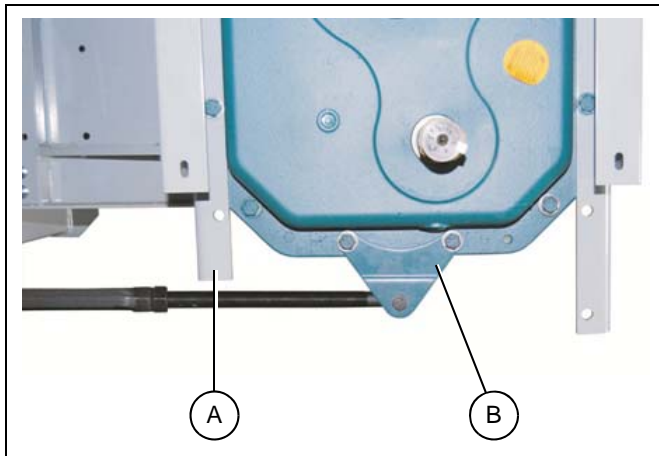
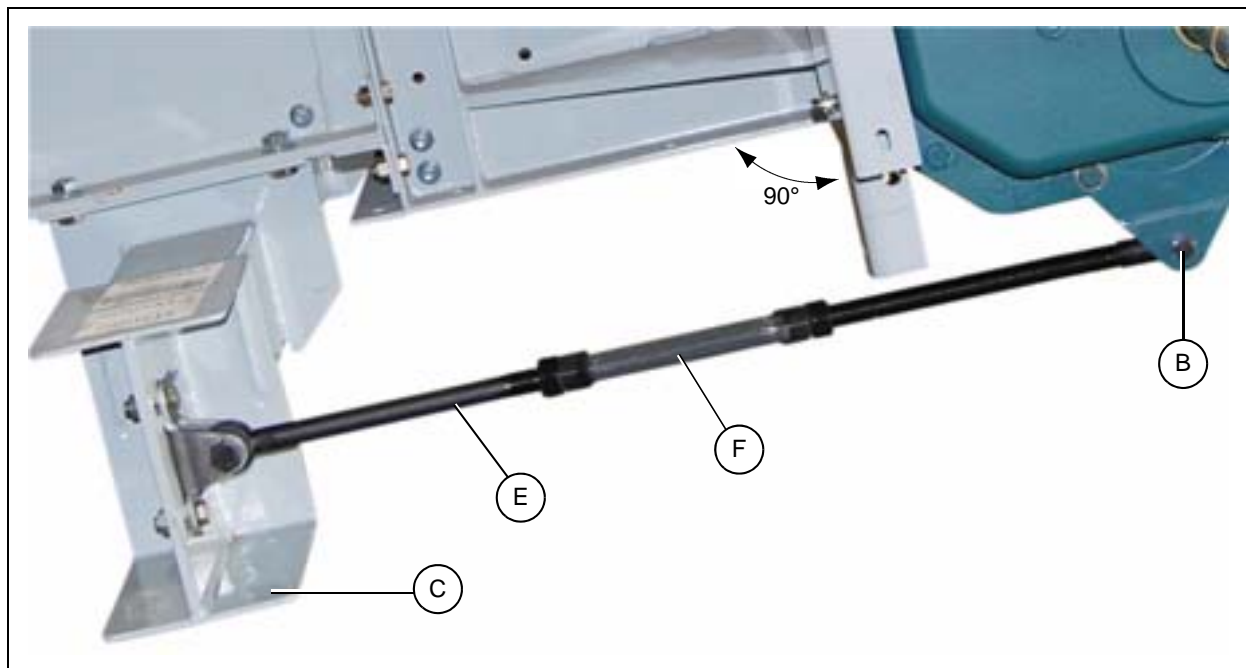
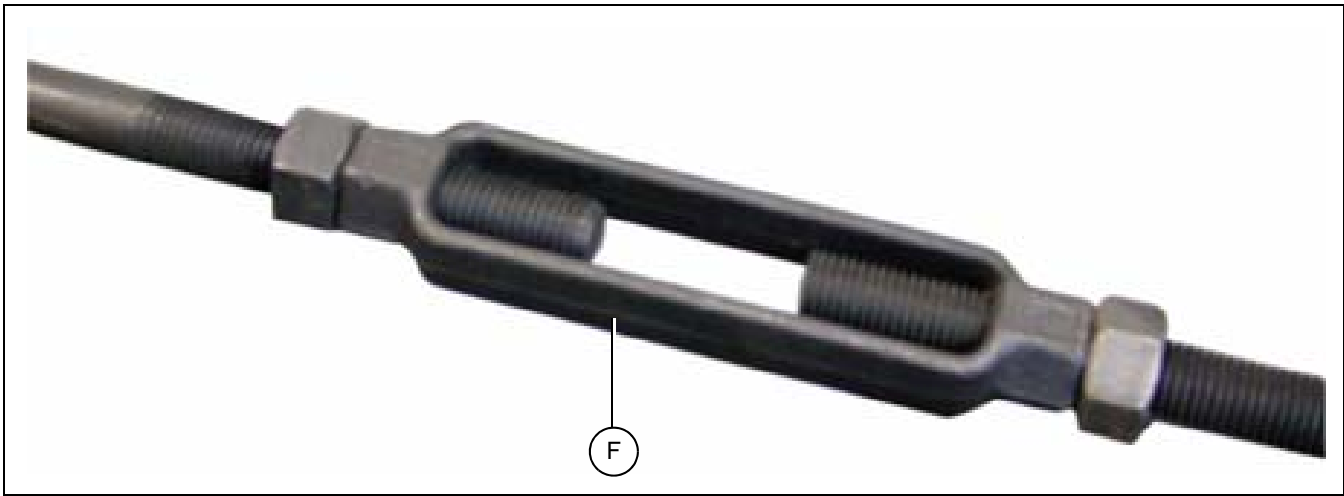

Figure 6T
Figure 6V
Figure 6W
The torque arm bracket (C) is pre-punched for easy installation to the unit. Begin installation of this option by determining the location of the torque arm bracket relative to the range of extension allowed by the shaft mount reducer's torque arm assembly (E). The bracket will extend on the same side of the conveyor as the head shaft. Remove the four (4) bolts from the bottom of the conveyor plate as necessary. \(See Figure 6V on Page 27.\)
The torque arm bracket (C) is mounted under the first intermediate section. Locate bracket by matching an existing set of holes in the intermediate side that allows the turnbuckle assembly (E) to be as short as possible with the reducer in a position perpendicular to the length of the conveyor. \(See Figure 6V on Page 27.\)
Install the torque arm turnbuckle (F) between the two (2) plates (B) that are located on the bottom of the reducer drive. \(See Figure 6V on Page 27.\) Secure using bolt with washer and lock nut. \(See Figure 6T on Page 27.\) Attach the other end to the torque arm bracket (C) on the conveyor using two (2) bolts, washers and lock nuts. Adjust the torque arm (D) by turning the turnbuckle. \(See Figure 6W on Page 28.\)